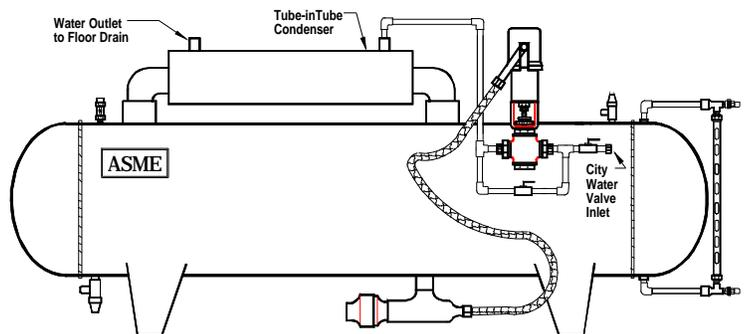

Figure 5. - Water Connections
1. Using $\frac{3}{4}$ " copper tubing, connect city water source to **SavAll™ System** water valve inlet connection (see Figure 5).
2. Using $\frac{3}{4}$ " copper tubing, run outlet drain line from Tube-in tube condenser outlet fitting to nearest floor drain or other suitable drain (see Figure 5.).